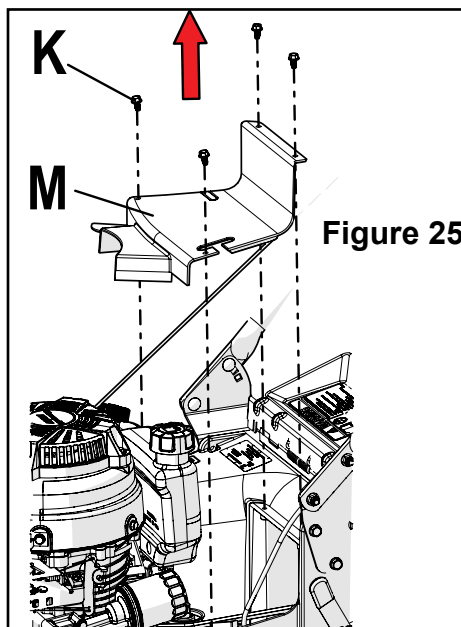

Figure 25
2. Remove the four screws **K** securing the belt cover **M**. Remove the belt cover. **Note:** When reinstalling the cover, take care not to over tighten these screws. **Figure 25**